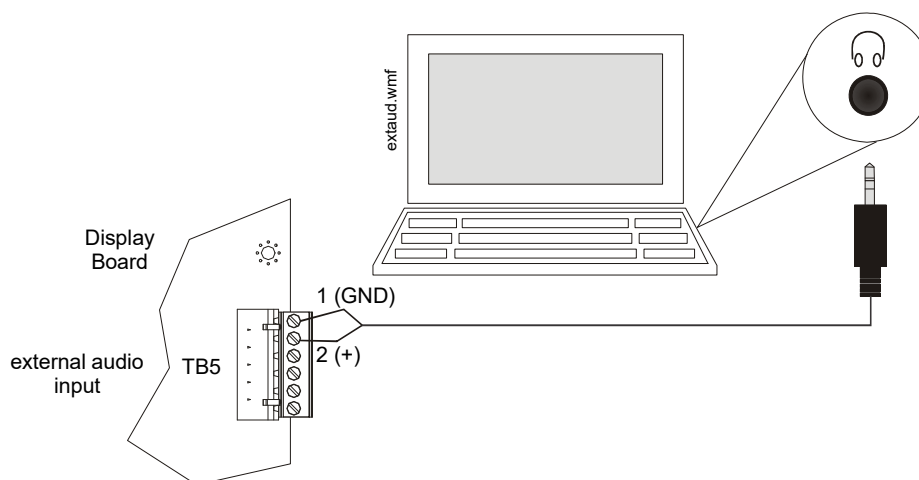

Figure 3.15 External Audio Connection for Recording
2. Plug the mini plug into the Line Out/Headphone Jack on a PC or laptop. See Figure 3.15.